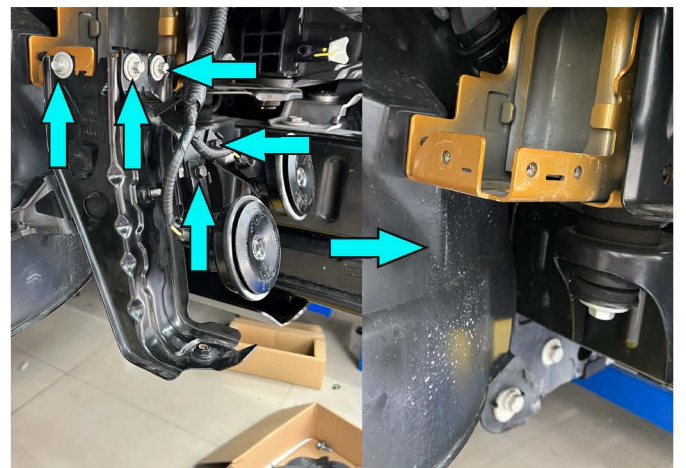

Fig.16
16. Unscrew OE bolts and remove bracket on both sides of the vehicle (fig.16).